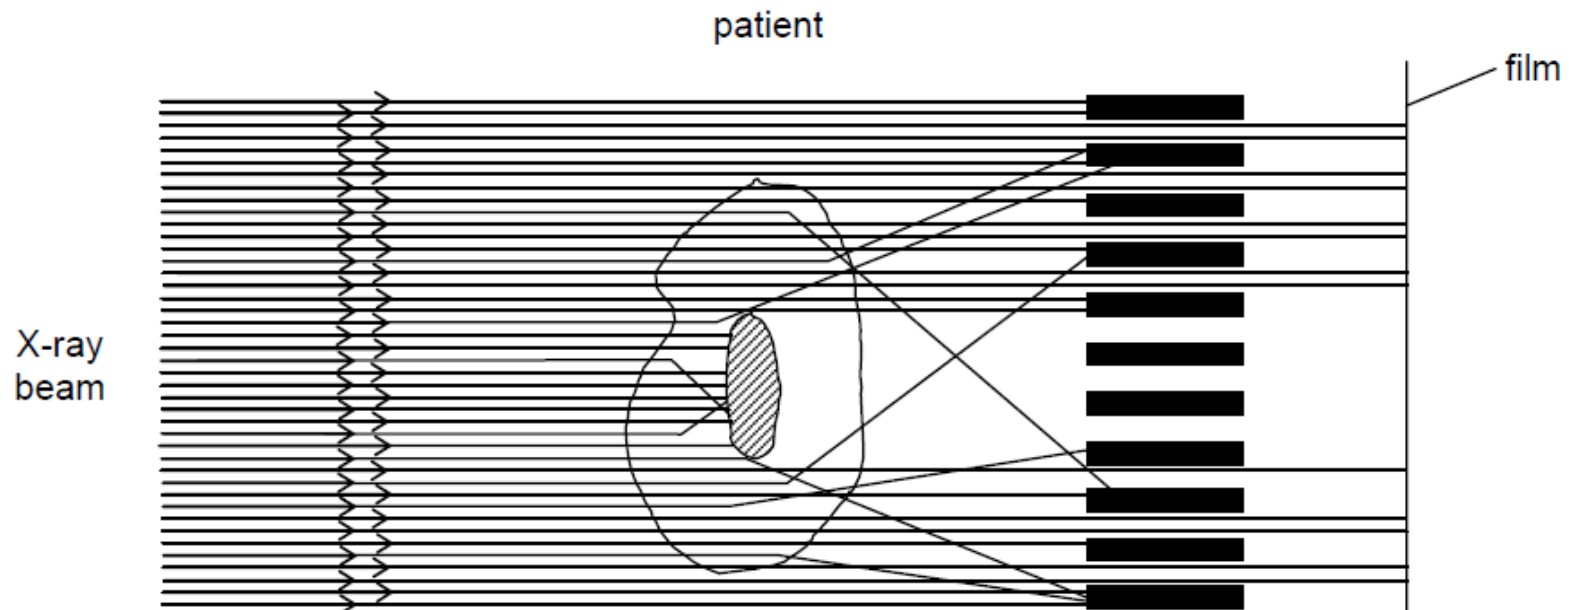

Fig. 2.5
- the use of a lead grid in front of the photographic film to absorb scattered X-ray photons, as illustrated in Fig. 2.5.